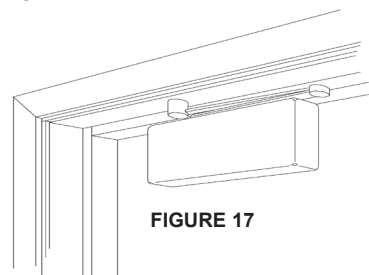

FIGURE 17
3. Drill and tap through frame and reinforcement for closer shoe attachment (Figure 17).